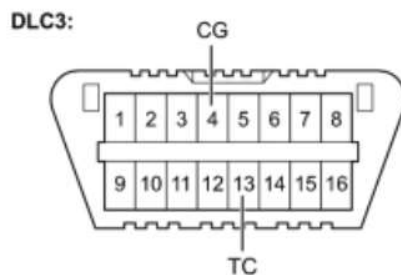

Fig. 3: Data Link Connector
- The initialization mode can be terminated by shorting terminals No. 4 and 13 of the DLC3 connector together (located under left side of instrument panel). See **Fig. 3**.